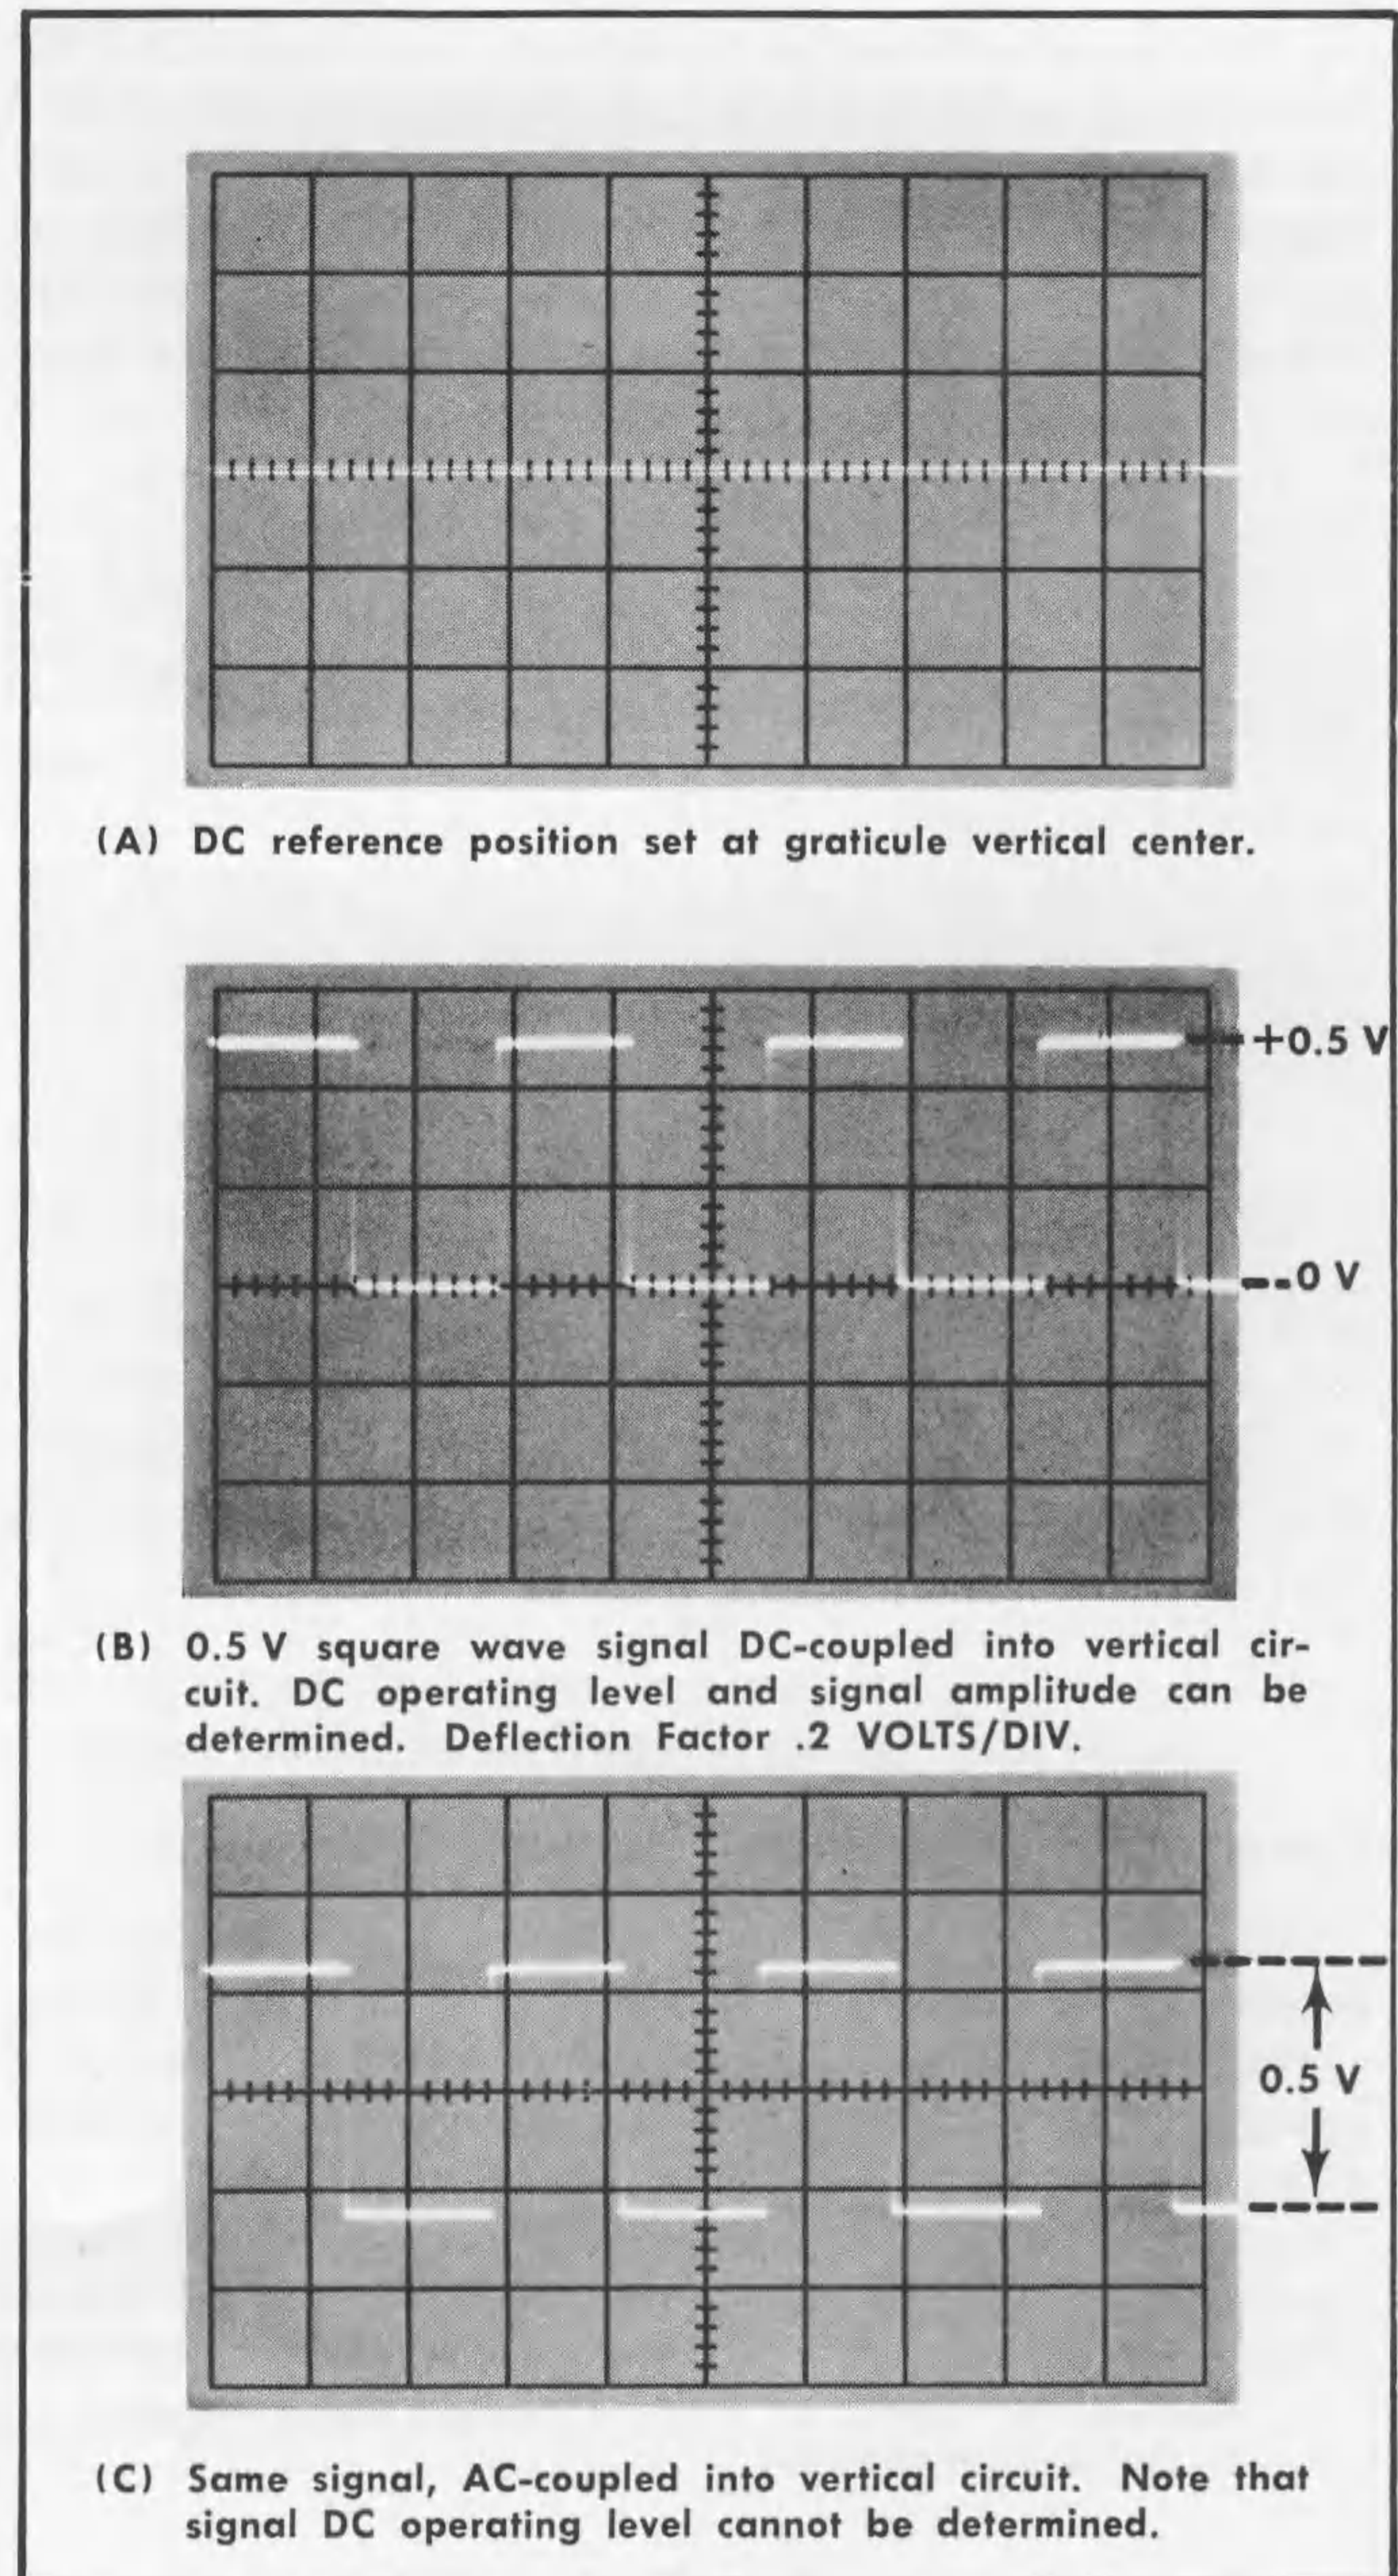

Fig. 2-5. DC versus AC input coupling.
Determine that the number of divisions of separation between the previously established DC reference and the top of the square wave. Multiply by the value of the VOLTS/DIV knob setting and the probe attenuation factor. The position of the top of the trace is above the DC reference, indicating a positive voltage. The bottom of the trace appears at the DC reference point. The trace is operating between 0 and +0.5 V DC. See Fig. 2-5(A) and (B).
11. Switch the INPUT control to AC. Note that removal of the DC component causes the trace to shift downward, centering around the previously established trace DC reference position. See Fig. 2-5(C).